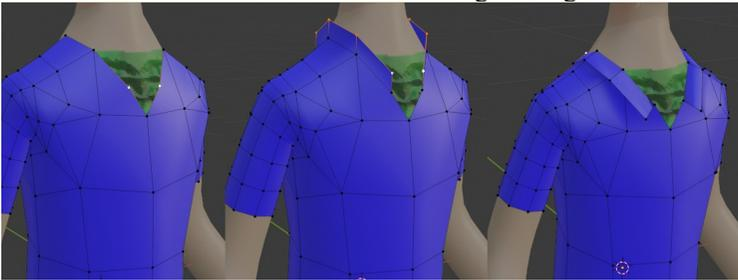

Figure 7-4 Extrude then form the collar
5. Switch to orthographic view in the Y direction, toggle X-Ray on then using circle selection select the vertices for a short sleeved shirt. You will add a mirror modifier so you only need half a shirt. Your selection should include vertices on the center line but none from the opposite half. Figure 7-4 shows where I cut off the sleeves and neck, but use your own sartorial judgment.
11. To ensure the shirt is visible above the surface of the Person01 mesh as in Figure 7-4, add a shrinkwrap modifier to the Shirt object. Set the Snap Mode to **Outside**, the Target to the Person01 object and the Offset to 0.001m.
12. Switch to Edit mode and using front and side orthographic views move the vertex at the neck away from the center line to form an open collar as in Figure 7-4 on the left.
13. Select the vertices around the collar, extrude them in the Z direction then, by rotating the view often and moving each vertex a little at a time, create a folded over collar. For this kind of adjustment it's often handy to switch the select mode to Tweak by long pressing the top entry in the Toolbar. In tweak mode you can select and drag a vertex with one mouse click. The result should look something like Figure 7-4